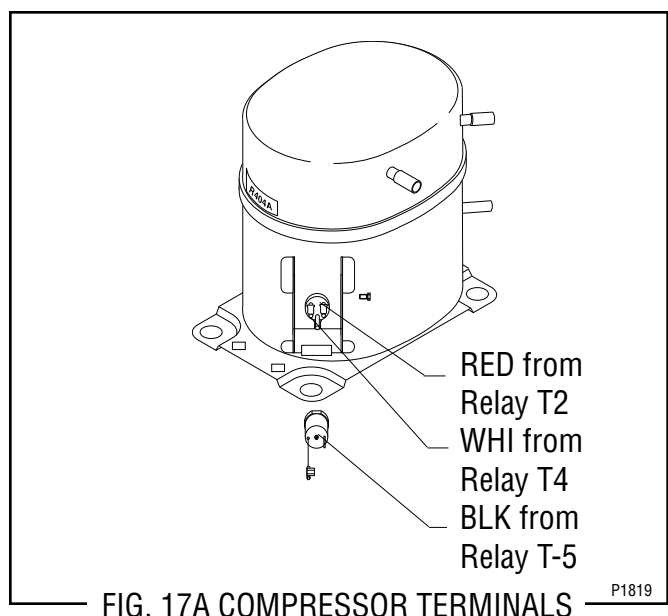

FIG. 17A COMPRESSOR TERMINALS
18. Refer to Fig.17A and reconnect the wires to the compressor.